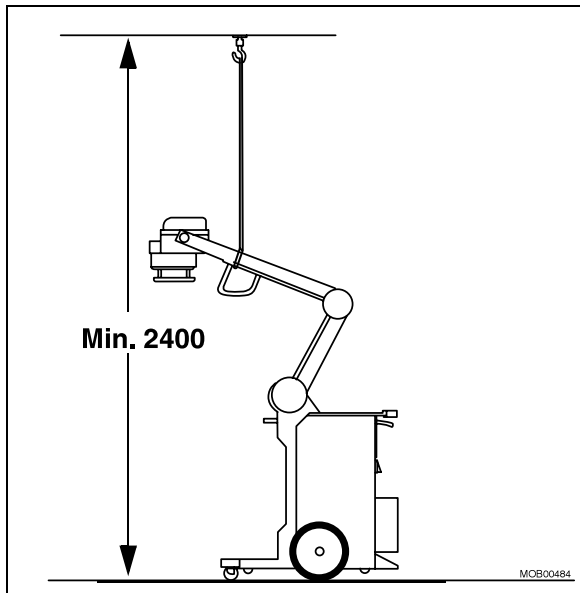

Fig. 51: Releasing the arm
- Lift the single tank to maximum height and secure it to the ceiling beam (Fig. 51 / p. 60).